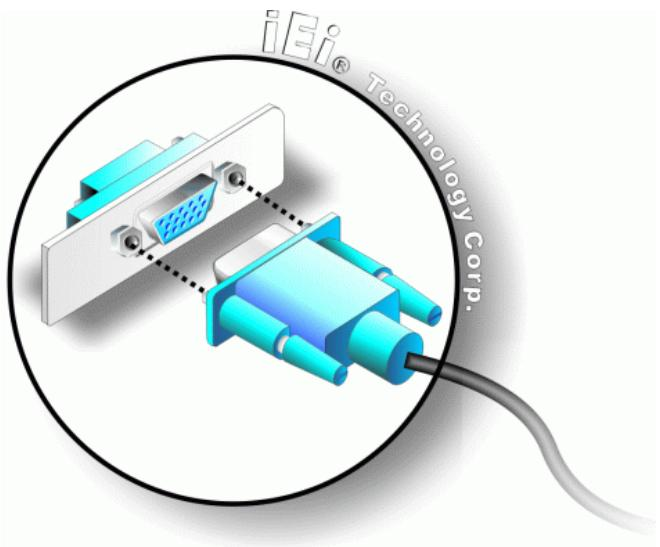

Figure 5-21: VGA Connector
Step 3: Insert the VGA connector Once the connectors are properly aligned with the insert the male connector from the VGA screen into the female connector on the NANO-9453. See Figure 5-21.